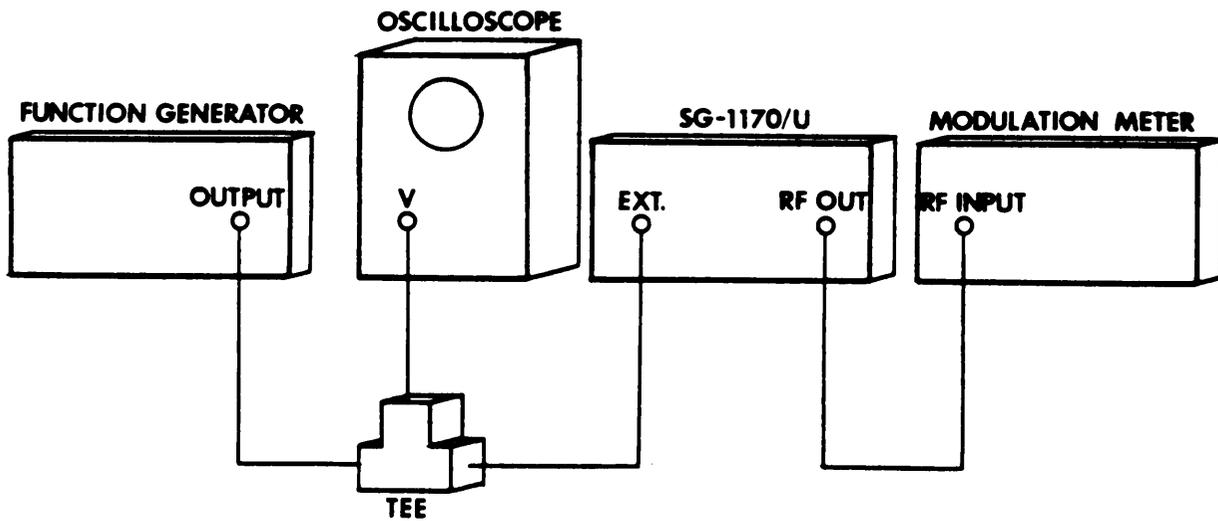

Figure 4-4. Set-up for AM Bandwidth Test
2. Connect the equipment as shown in Figure 4-4.